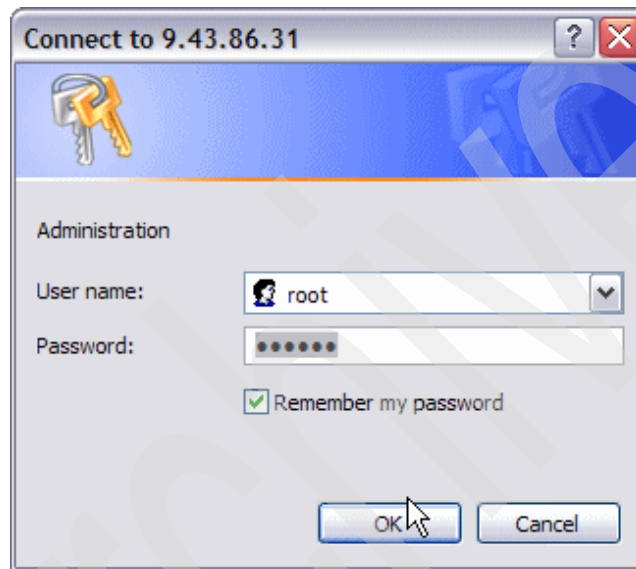

Figure 7-1 Credentials
2. Enter credentials, as shown in Figure 7-1.